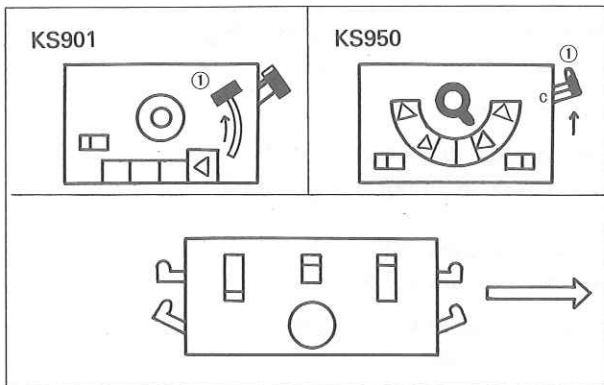

Fig. 5
9 Set main carriage ① (C) <Fig. 5>